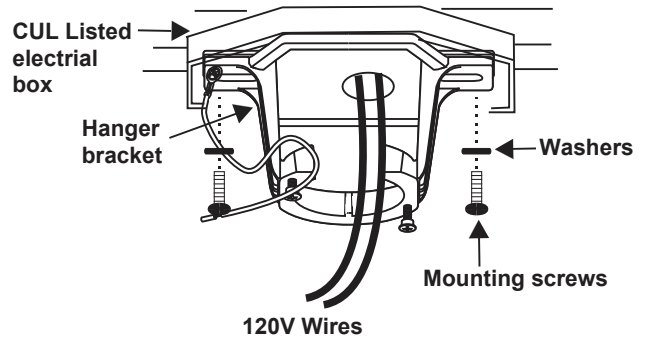

Figure 5
Step 1. Remove the hanger bracket from the canopy. Pass the 120-volt supply wires through the center hole in the ceiling hanger bracket as shown in Fig. 5.